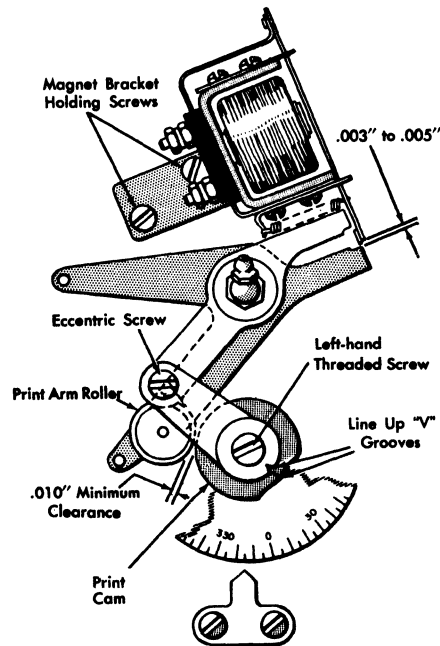

Figure 110. Print Magnet Adjustment
5. Position entire magnet bracket (Figure 110) first for .003-inch to .005-inch clearance between end of armature block and inside edge of print arm (with armature in normal de-energized position).
8. Check for .010-inch minimum free clearance between print arm roller and print cam (Figure 110). This clearance must be held. If printing is too heavy, or if smudging occurs when spacing, remove shims from code plate to correct the condition.